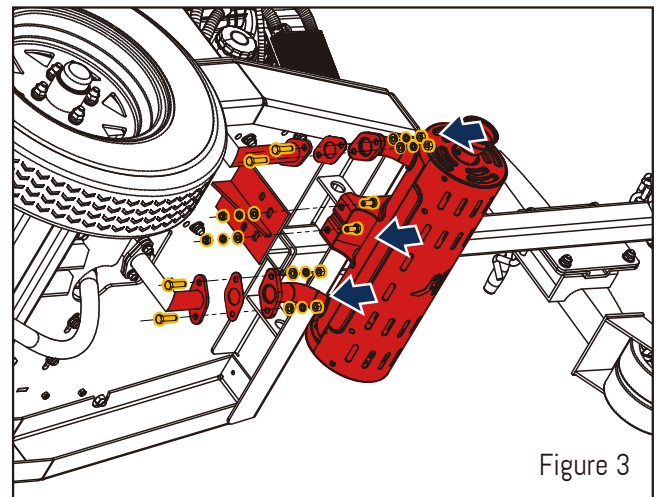

Figure 3
3. Attach the muffler to the Chassis using hex bolt M8x20, flat washer 8, spring washer 8 and hex nut M8. (See Figure 3)